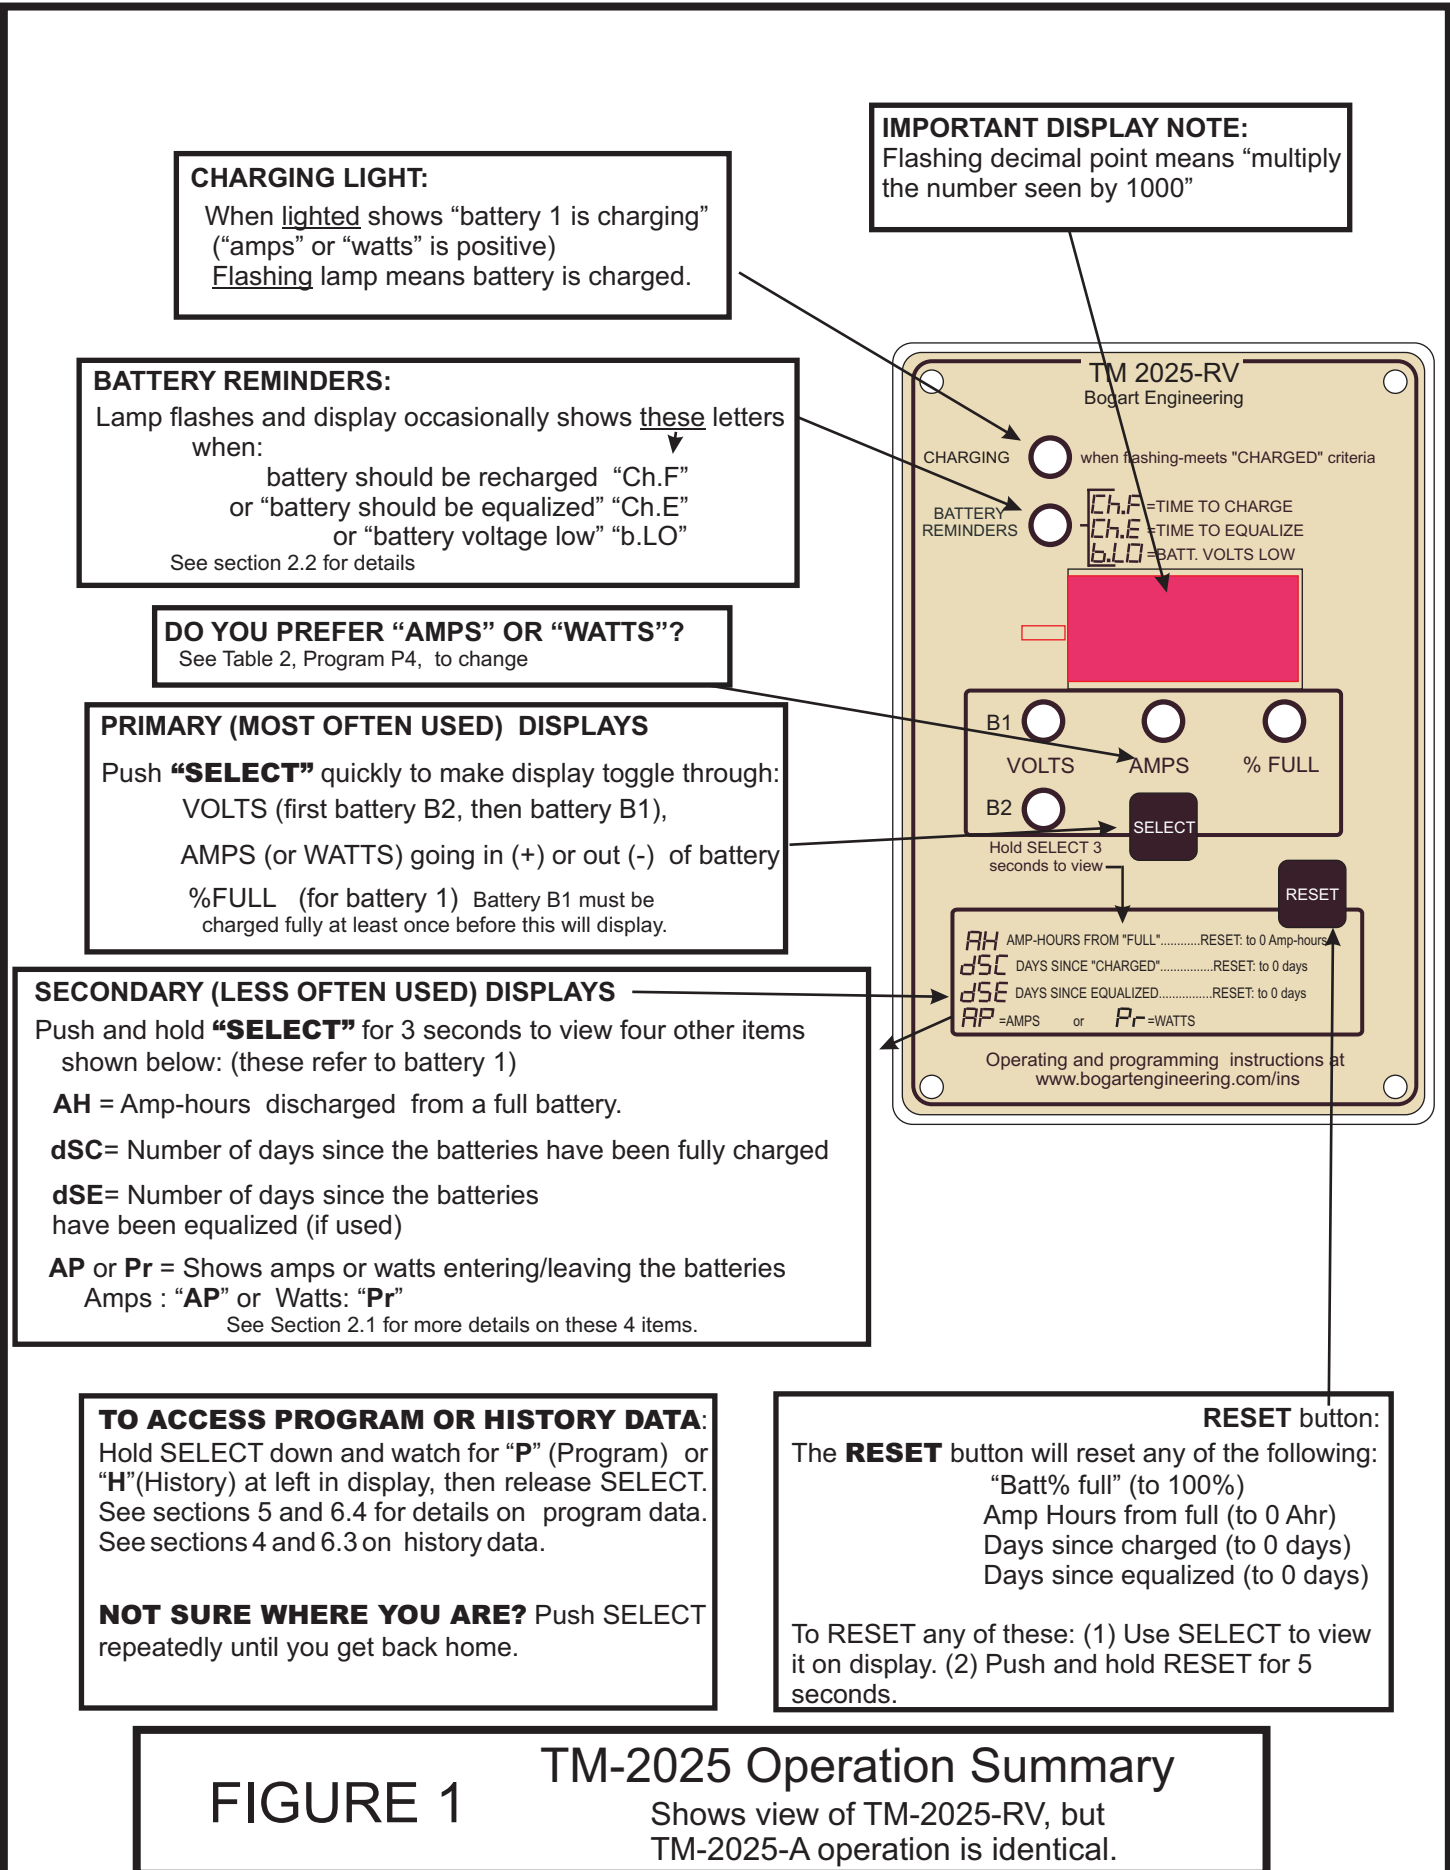

FIGURE 1
2. Basic instructions for Operating Level L1: Refer to figure 1 which covers basic operation. It also has references for further information.
dSE Days since the battery was equalized. “Equalization” refers to occasionally overcharging a battery to help it maintain its capacity. It is usually recommended only for liquid electrolyte lead acid batteries, not AGM or Gel types. This display is intended to remind you when to equalize your batteries if this is not done automatically by your charging system. It is essentially just a manual timer, that reads in DAYS, so that you can see how long it has been since your batteries were equalized. Each day when not reset it will advance by 1.00 day. Then it must be MANUALLY RESET by you when you take action to equalize the batteries. For how to reset this, refer to Figure 1, in reference to the RESET button.
2.2.2. “Ch.E” (Charge Equalize) Reminder to equalize batteries occasionally, (typically monthly) if recommended by the battery manufacturer. Equalization refers to an occasional overcharge which is recommended by manufacturers of “liquid electrolyte” batteries (the ones with watering holes on top.) It is not ordinarily recommended for AGM or Gel type (VRLA) batteries. If you have liquid electrolyte batteries, and if you need to manually equalize, you can choose the equalization reminder interval (for example, once every 30 days) to flash “Ch.E” in the display after this interval. This feature is intended to remind you to equalize at regular intervals if equalization is not accomplished automatically by your charger or charge controller. Then, after you accomplish equalization you must manually reset the “Days since equalize” number as described in figure 1, by the RESET button. More information about equalization may be found in section 7: **Important information on how to keep from killing your batteries.** The number of days is programmed by Program P6. (See Table 2).